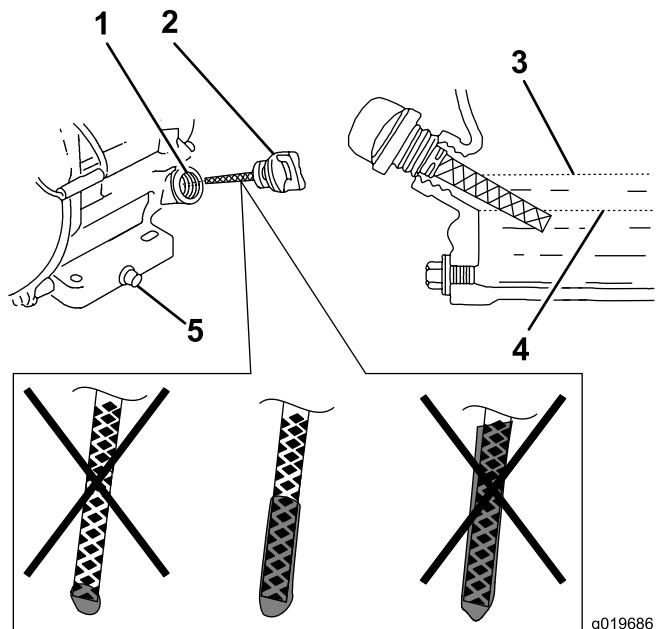

Figure 13
6. Remove the dipstick again and look at the end. If the engine oil level is low, slowly pour only enough oil into the filler tube to raise the level to the middle of the dipstick (Figure 13).